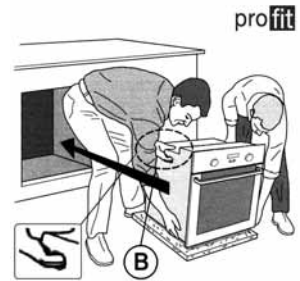

Fig. 7
- The oven has two side handles (**B**), to make installation easier (Fig. 7).